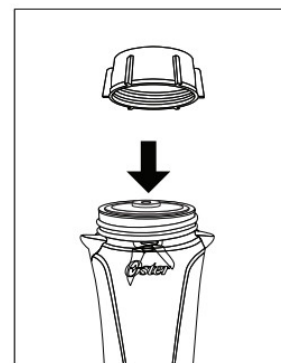

Figure 4
4. Place threaded jar bottom over blade and sealing ring and turn clockwise to tighten to the cup. (Figure 4)